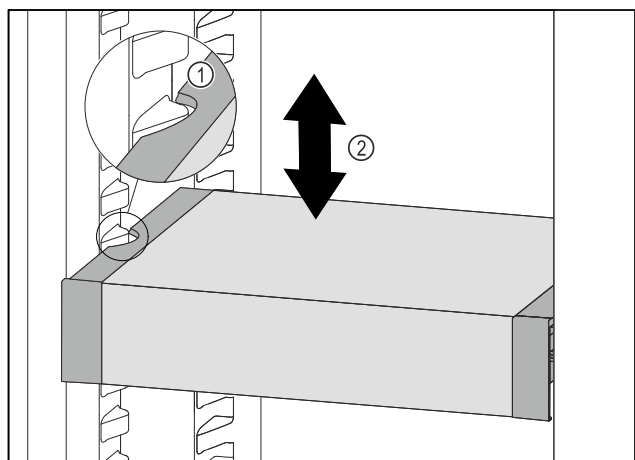

Fig. 152
- ▶ Pull VarioSafe forwards until the recesses in the side of the VarioSafe are at the level of the support rib in the refrigerator compartment. Fig. 152 (1)
- ▶ Move VarioSafe up or down in the refrigerator compartment until the desired height is reached. *Fig. 152 (2)*